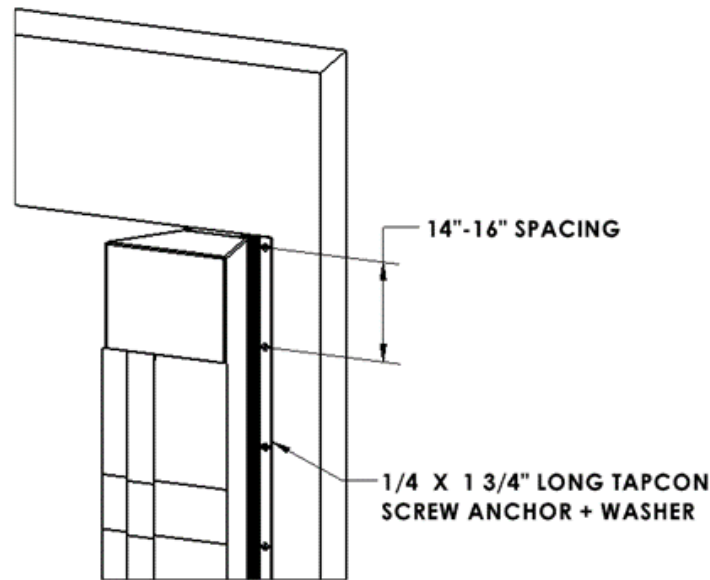

FIGURE 9
- e. The anchors with washers should be spaced 14"-16" apart and ideally placed in mortar joints when possible. Drill the holes into the bracket and wall for the Tapcon Screw Anchors using a 3/16" diameter masonry drill bit. Fasten each anchor with washer as shown (Figure 7, Figure 8 & Figure 9).